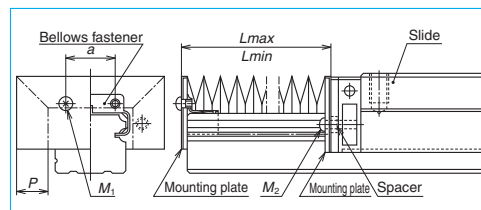

Fig. 7.7
* Fixing to the ball slide (Fig. 7.7)
- Remove two machine screws (M_2) which secure the end seals to the end of the slide (**Fig. 7.7**). For LS15, hold the end cap by hand. Otherwise, the end cap is detached from the ball slide, and the balls inside may spill out.
(5) Bellows
- To install bellows for LH and LS Series, lightly knock a fastener exclusively for bellows to the end of the rail (**Fig. 7.7**). Then secure the mounting plate to the end of the bellows through the tap hole of the fastener.